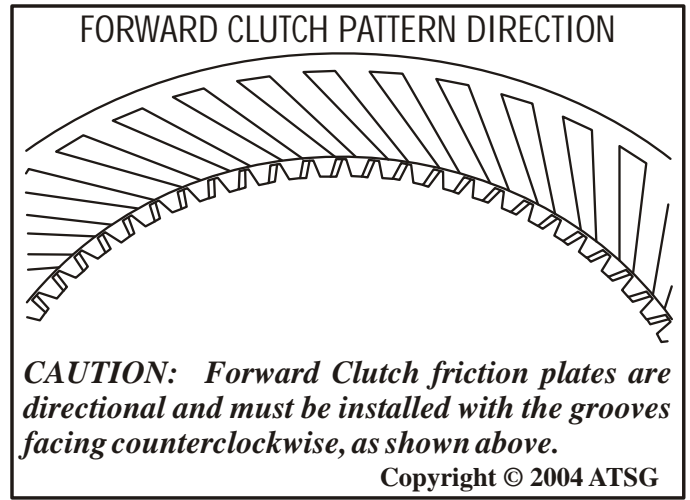

Figure 90
**CAUTION:** *Forward Clutch friction plates are directional and must be installed with the grooves facing counterclockwise, as shown in Figure 90. Friction plates should be soaked in Mercon® V for 30 minutes before installing.*